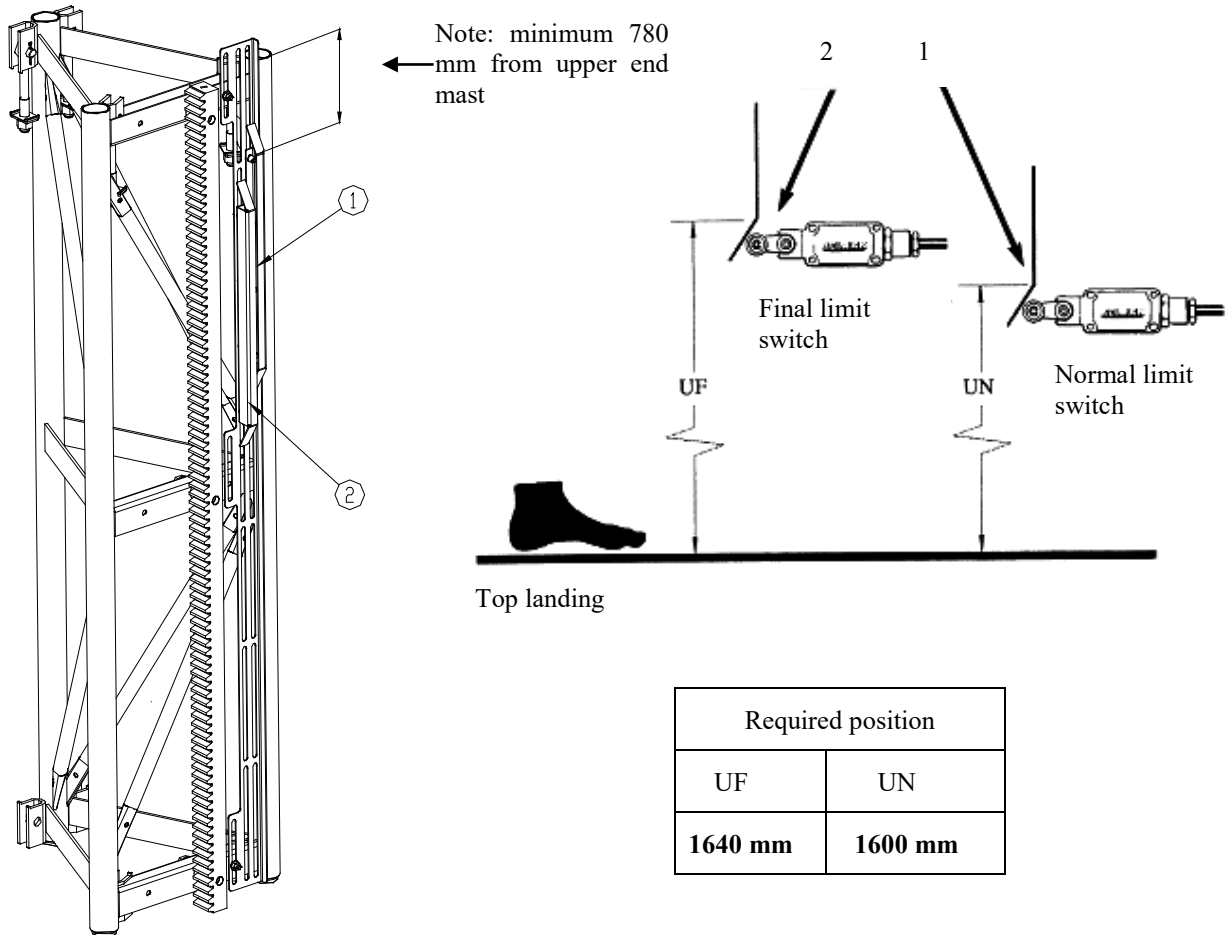

Fig.H.26 Upper normal and upper final limit cam
53. Once reached desired height, install the upper normal cam (1-fig.H.26) and upper final limit cam (2-fig.H.26) on the last mast section. The maximum permissible mast height should not be exceeded.